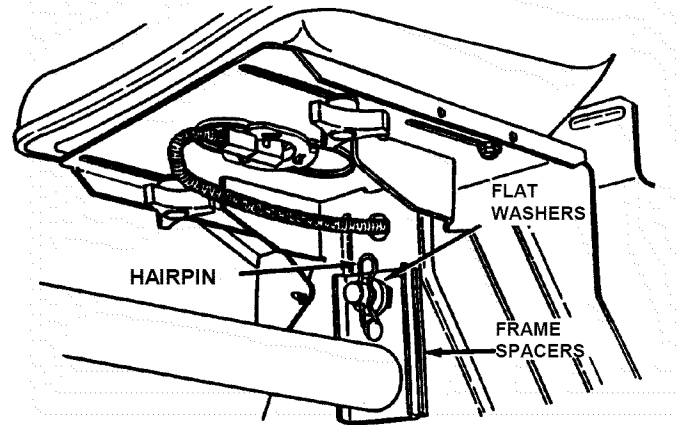

FIGURE 4.6
5. Remove hairpin and flat washers from pivot stud. See Figure 4.6.
8. Reinstall the required amount of flat washers removed in step "5." and install hairpin. See Figure 4.6. Retain any remaining spacers for readjustment when a new belt is installed.